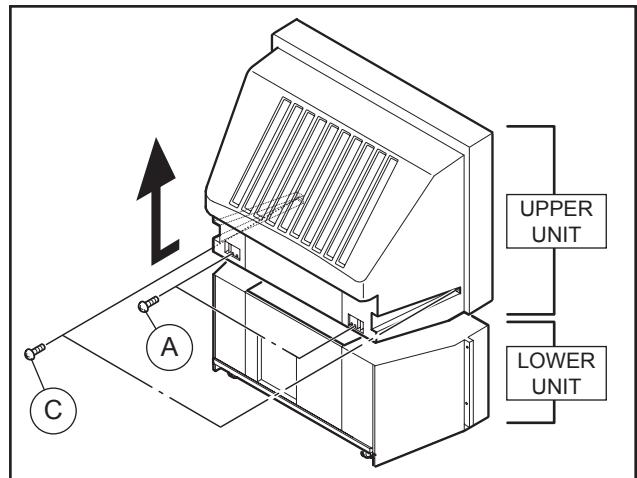

Fig.3
- (7) Remove 1 screw C on the left edge of the rear cover, and 1 screw C on the right edge of the rear cover. [Fig.3]
- (8) Remove 1 screw [A] on the left side of the rear cover, and remove 1 screw [A] on the right side of the rear cover. [Fig.3]
- (9) Move the rear cover approx. 3cm in rear direction. Then, remove the upper unit from the lower unit by lifting the upper unit slowly. [Fig.3]